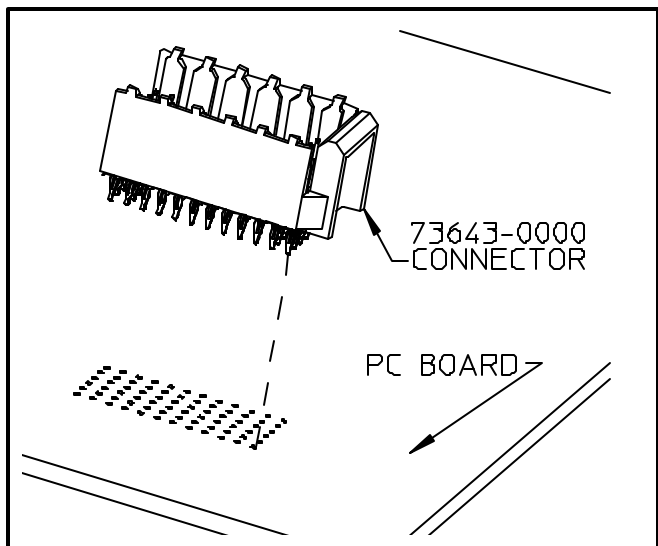

Fig. 2-6
1. Carefully locate the connector(s) on the printed circuit board and start in by hand. Make sure pin 1 is in the correct position on all connectors. (See Fig. 2-6 and 2-7)